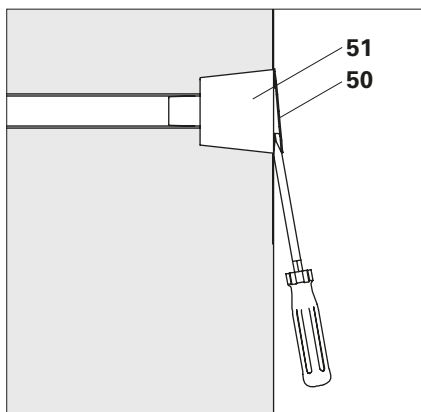

Fig. A1.01
1. If present: Lift and remove the sealing cover (**50**) with a screwdriver or similar tool. (Fig. A1.01)